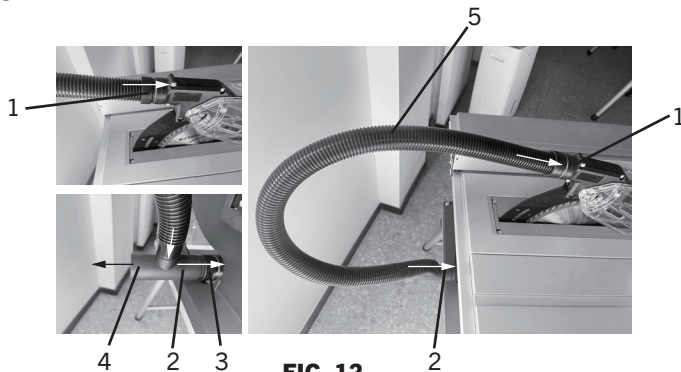

FIG. 12
Connect one end of the vacuum hose (5) to the dust outlet (1) of the blade guard, twist and push the vacuum connector to lock it in place, and connect the other end of the hose to the three-way adapter (2). Connect one end of the adapter to the fixed guard dust outlet (3), and the other end (4) to the vacuum cleaner (Fig.12)
1. Align the front of the rip fence (1) (Fig.12) with the side of the front rail (2). Align the back end of the rip fence (1) with the side of the rear rail (3). Slide rip fence (1) onto both rails. Check to ensure the rip fence locking lever (4) is in the unlocked and "up" position and the rip fence (1) slides freely on the rails (2) &(3).
2. Lower rip fence locking lever (4) "down" to lock the rip fence (1) in place.